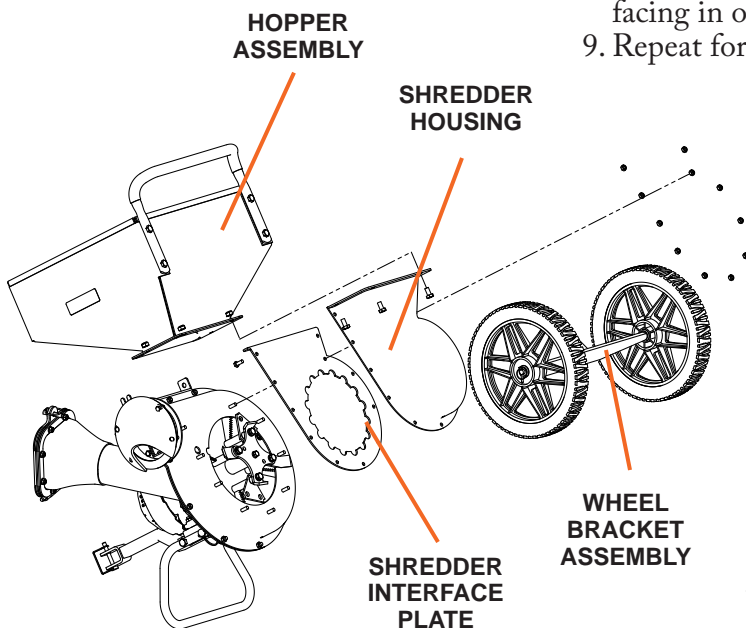

Figure 9
3. Remove (4) M10 Bolts that attach Hopper Assy. Lift Hopper Assembly from Chipper/Shredder and set aside (see Figure 9).
5. Remove (11) M8 Nylock Nuts that attach Shredder Housing to Chipper Shredder. Remove Wheel/Bracket Assembly, Shredder Housing and Shredder Interface Plate (see Figure 9).
3. Remove (4) M10 Bolts that attach Hopper Assembly. Lift Hopper Assembly from Chipper/Shredder and set aside (see Figure 9).
5. Remove (11) M8 Nylock Nuts that attach Shredder Housing to Chipper Shredder. Remove Wheel/Bracket Assembly Shredder Housing and Shredder Interface Plate.